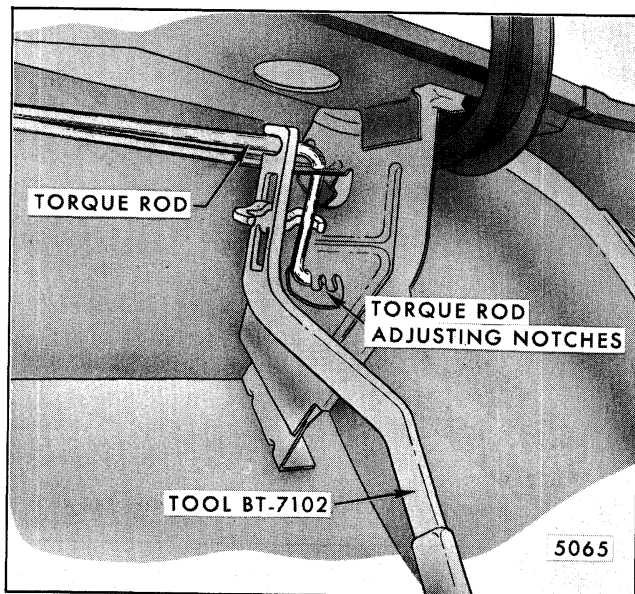

Fig. 7-39-Rear Compartment Torque Rod Adjustment - Oldsmobile "E" Styles
- d. On Oldsmobile "E" styles, use tool BT-7102 or equivalent (Fig. 7-39).